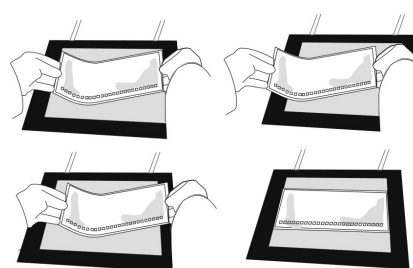

Fig. 2
- Remove the gel from its packaging. Remove the cover-film. Grip the gel (surface-up) at the two lateral edges at the protruding film, bend it like an “U” and slide the film-backing left and right on the cooling plate to distribute the cool contact fluid evenly (Fig. 2).